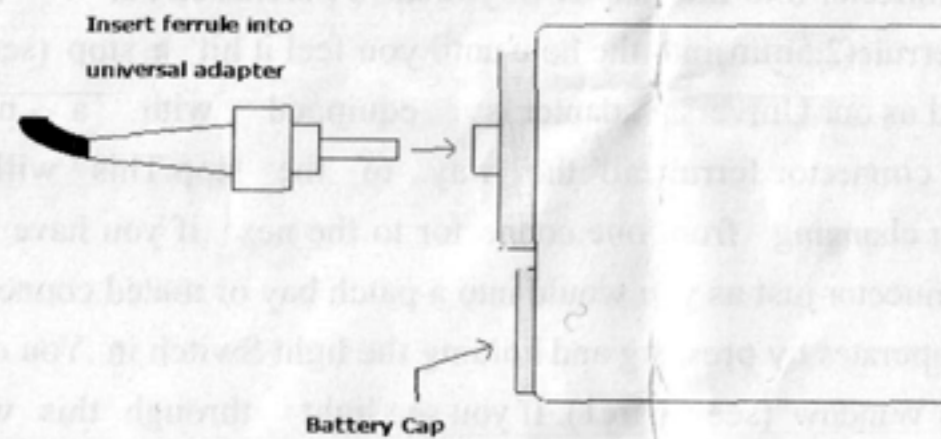

Figure 3
1. Begin by loading the polished connector into the adapter .If you have purchased our Universal Adapter ,simply slide the connector ferrule(2.5mm)into the hole until you feel it hit a stop (see figure3).it may require a little pressure to get it started as our Universal adapter is equipped with a no-slip gripping mechanism.it is important to slide the connector ferrule all the way to the stop.This will minimize any refocusing that needs to be done when changing from one connector to the next .if you have purchased one of the dedicated adapters,insert the connector just as you would into a patch bay or mated connector.